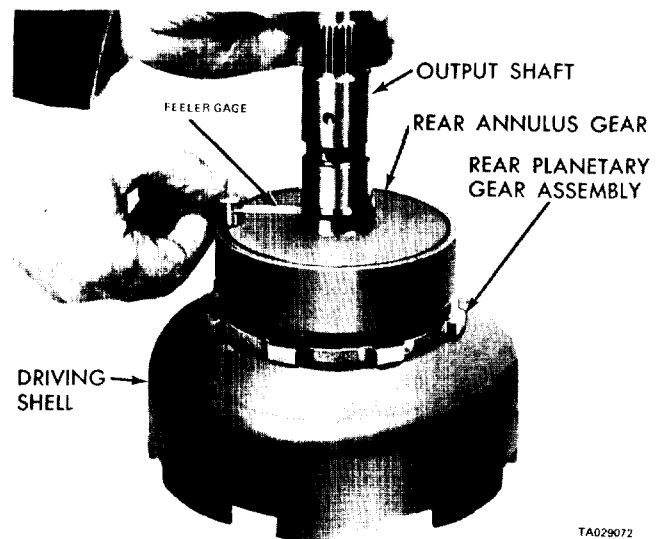

Figure 18-21. Measuring End Play of Planetary Gear Train.
a. *End Play.* Measure the end play of the planetary gear assemblies, the sun gear, and the driving shell before removing these parts from the output shaft. With the assembly in an upright position, push the rear annulus gear support down on the output shaft. Insert a feeler gage between the rear annulus gear support hub and the output shaft shoulder (figure 18-21). If the clearance is not 0.010 to 0.025 inch, replace the thrust washers or other necessary parts.